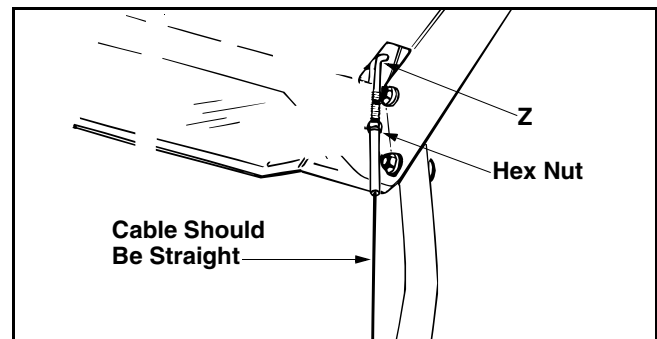

Figure 15
- Allow the auger to remain engaged for approximately ten (10) seconds before releasing the auger control. Repeat this several times.
- Retighten the hex jam nut. See Figure 15.